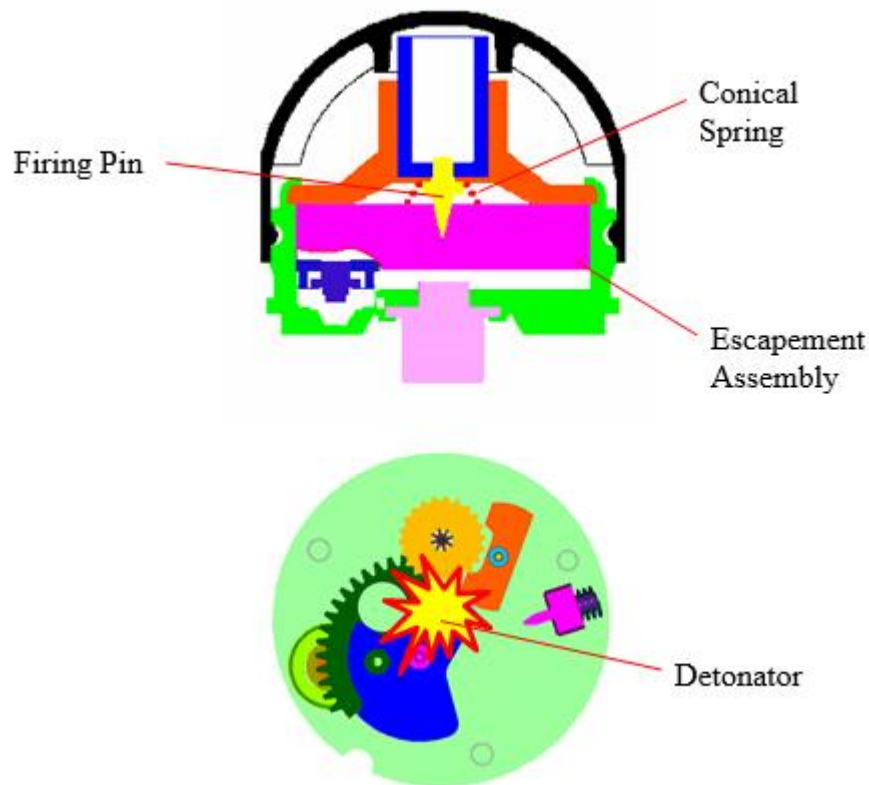

Figure 6: Fuze Impact
7.1.2.4 Fuze Impact (Figure 6)